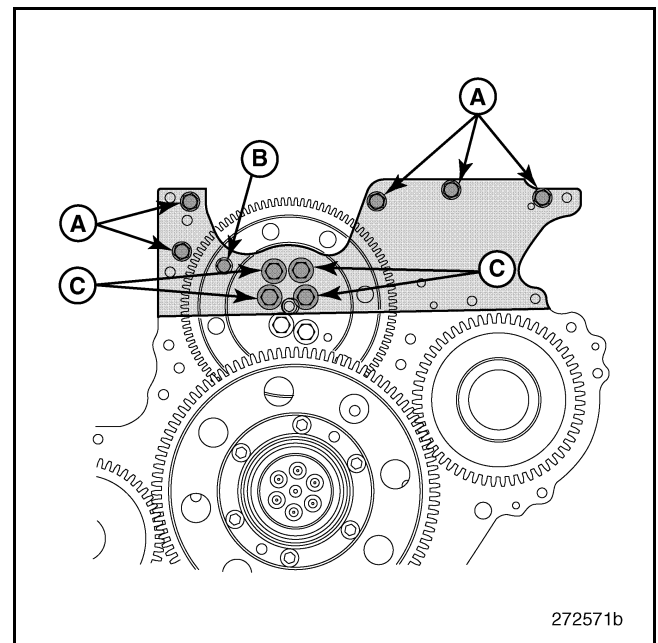

Figure 175 — Cylinder Head-to-Timing Gear Plate Screw Locations
*If the engine is not being completely disassembled for overhaul and only the cylinder head is to be removed, the six screws **A** and **B** which secure the timing gear plate to the cylinder head and the four upper screws **C** securing the idler gear hub to the cylinder head **MUST BE REMOVED** (Figure 175). Failure to do so may result in severe damage to the cylinder head and other engine components as the cylinder head is removed. See "REMOVING THE TIMING GEAR PLATE-TO-CYLINDER HEAD SCREWS" on page 122.*
If not already done, remove the 10 screws (**A**, **B** and **C** in Figure 175) securing the cylinder head to the timing gear plate as follows:
With the timing gear mounting plate-to-cylinder head screws removed (**A**, **B** and **C** in Figure 175), proceed as follows to remove the cylinder head.